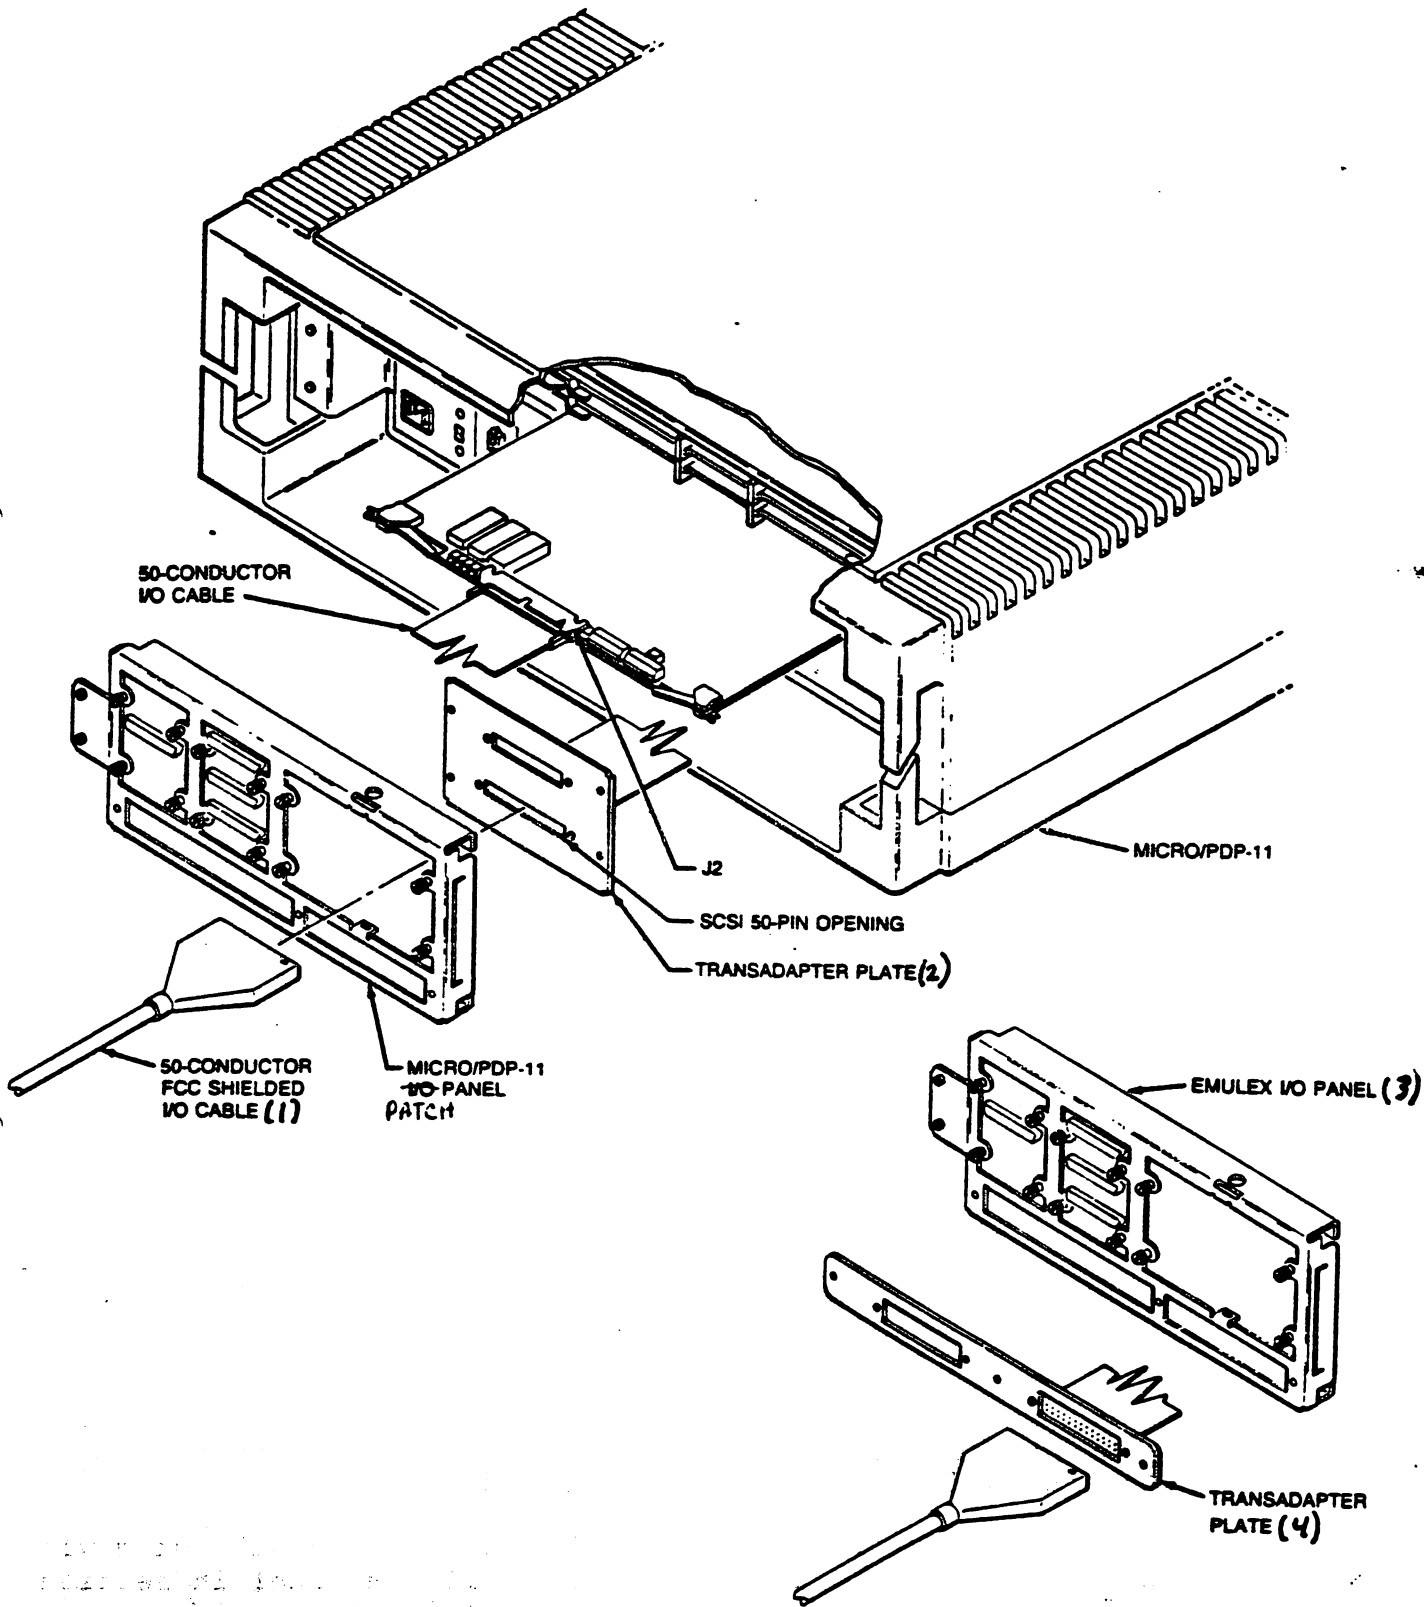

Figure 4-6. Installing the MicroPDP/VAX Cabling Kit
To install the Cable Kit in the Micro chassis, see Figure 4-6, and use the following procedure:
4. Attach the transadapter to the patch panel with the captive screws. See Figure 4-6.
4. Connect one end of the SCSI round shielded cable to the 50-pin opening in the transadapter plate. See Figure 4-6.